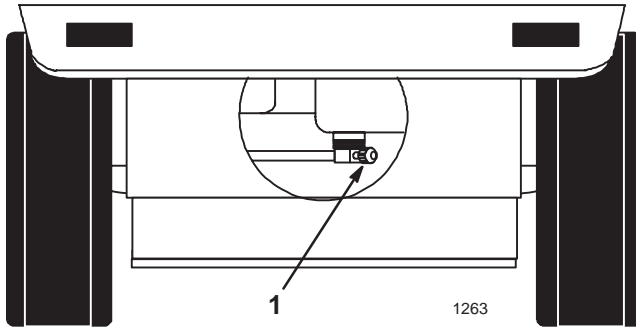

Figure 31
3. Close the fuel shut-off valve at the fuel tank (Fig. 31).
8. Open the fuel shut-off valve at the fuel tank (Fig. 31).